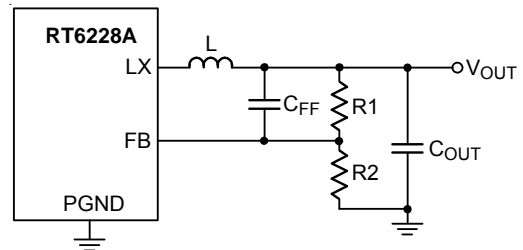
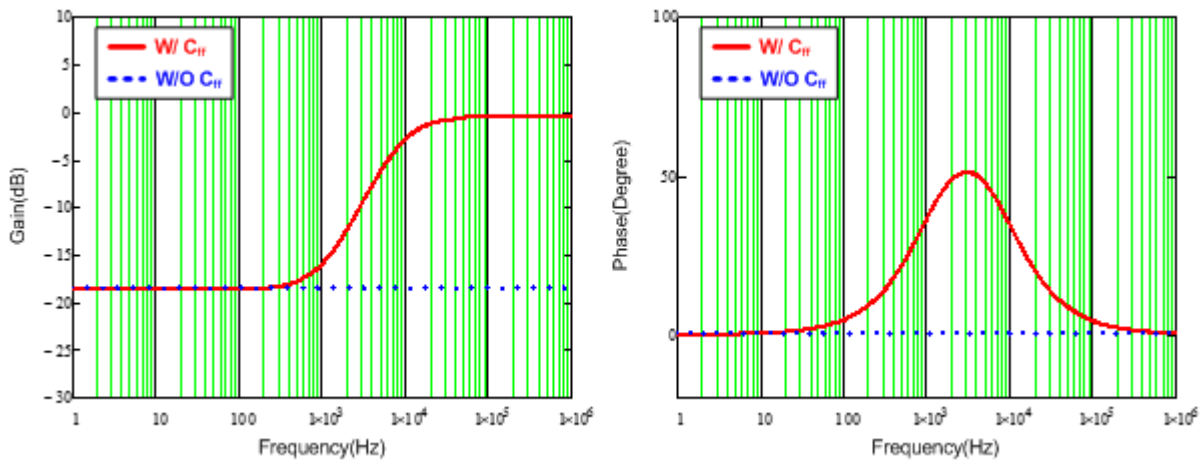

Figure 6. Feedback Loop with feedforward Capacitor.
Figure 7. Bode Plot with Different Feedback Loop Conditions
For saving time to design compensator and reducing the layout area through external components, the components of compensator are integrated in IC. However, this integrated compensator might not suit to every load transient spec. Hence, for the RT6228A to be more adaptable, the feedforward capacitor CFF is used in the feedback loop to improve transient response, as shown in Figure 6. Figure 7 shows the comparison result of bode plot with different feedback loop conditions. Referring to Figure 7, through connecting a CFF in feedback network, the gain and phase are raised in mid-frequency that not only can extend the bandwidth, but boost the phase margin as well. Moreover, there is also a high frequency pole to eliminate high frequency noise. Consequently, those features of feedforward feedback network allow the RT6228A have faster response to handle different load transient.
Observing Figure 7, the maximum phase boost occurs between zero and pole frequencies that is defined as maximum phase boost frequency, as expressed in equation (4). Hence, in order to achieve the maximum phase boost by adding  $C_{FF}$  in the RT6228A, the system's original bandwidth has to be located at maximum phase boost frequency.